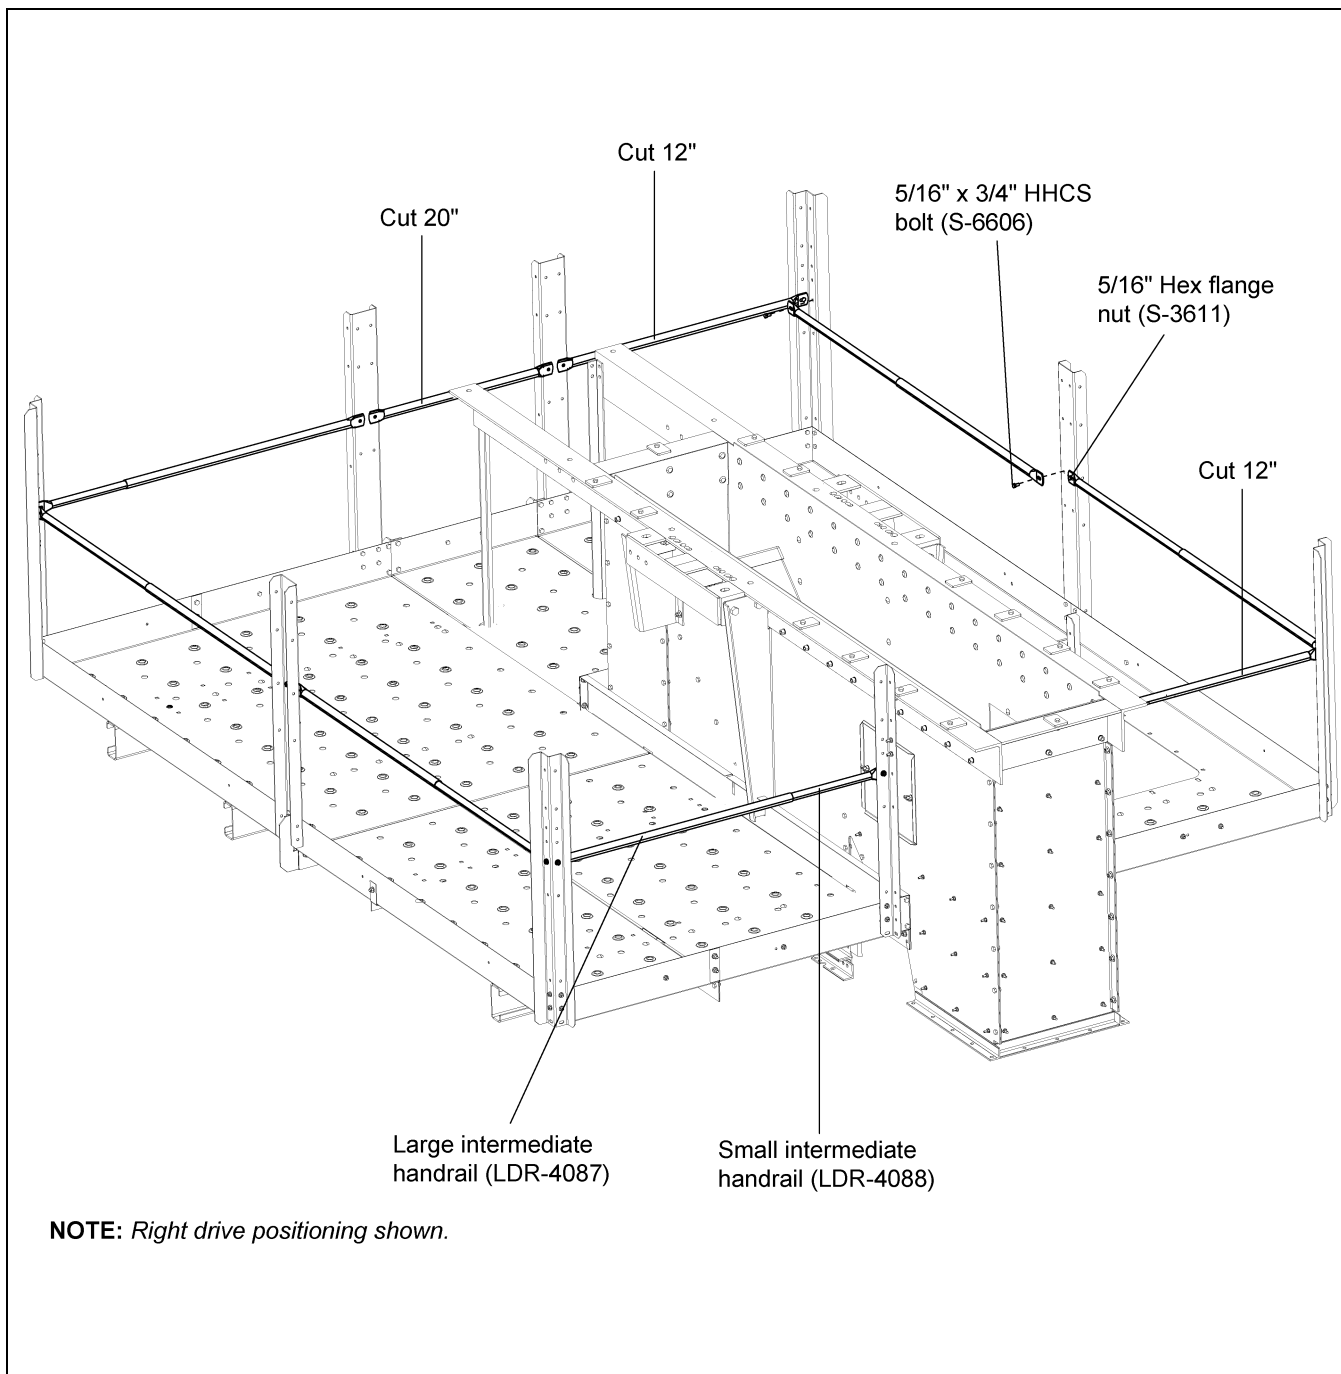

Figure 10I
3. Install the remaining Intermediate handrails around the platform using 5/16" x 3/4" bolts (S-6606) and nuts. (See Figure 10I.)